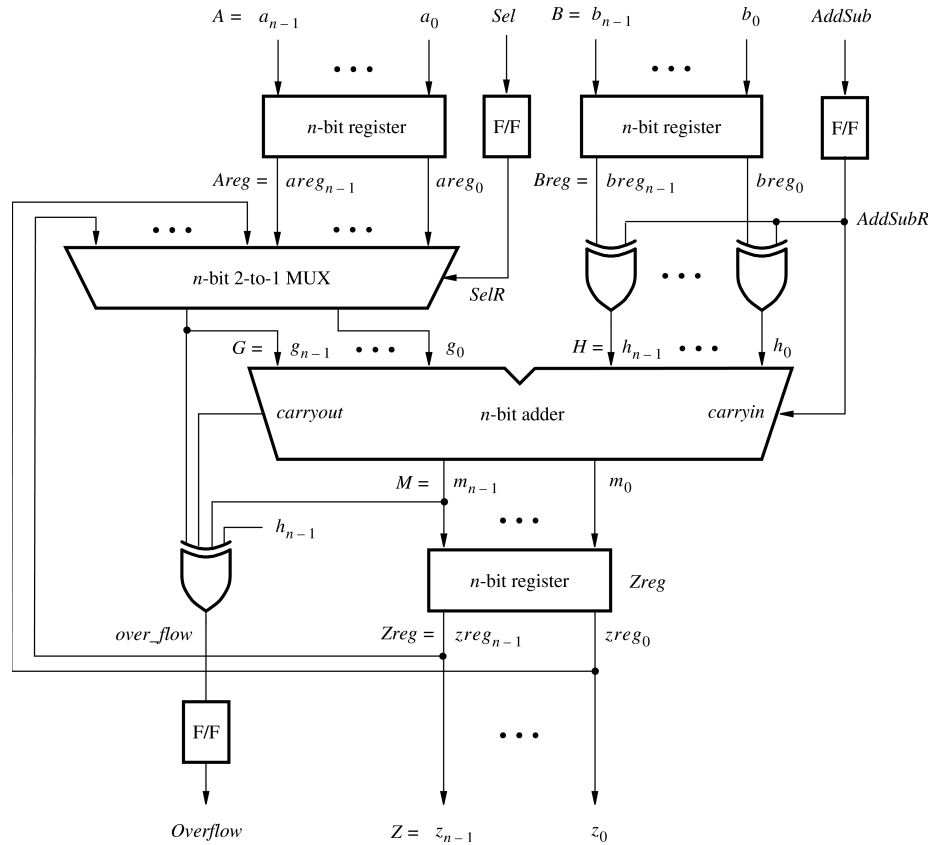
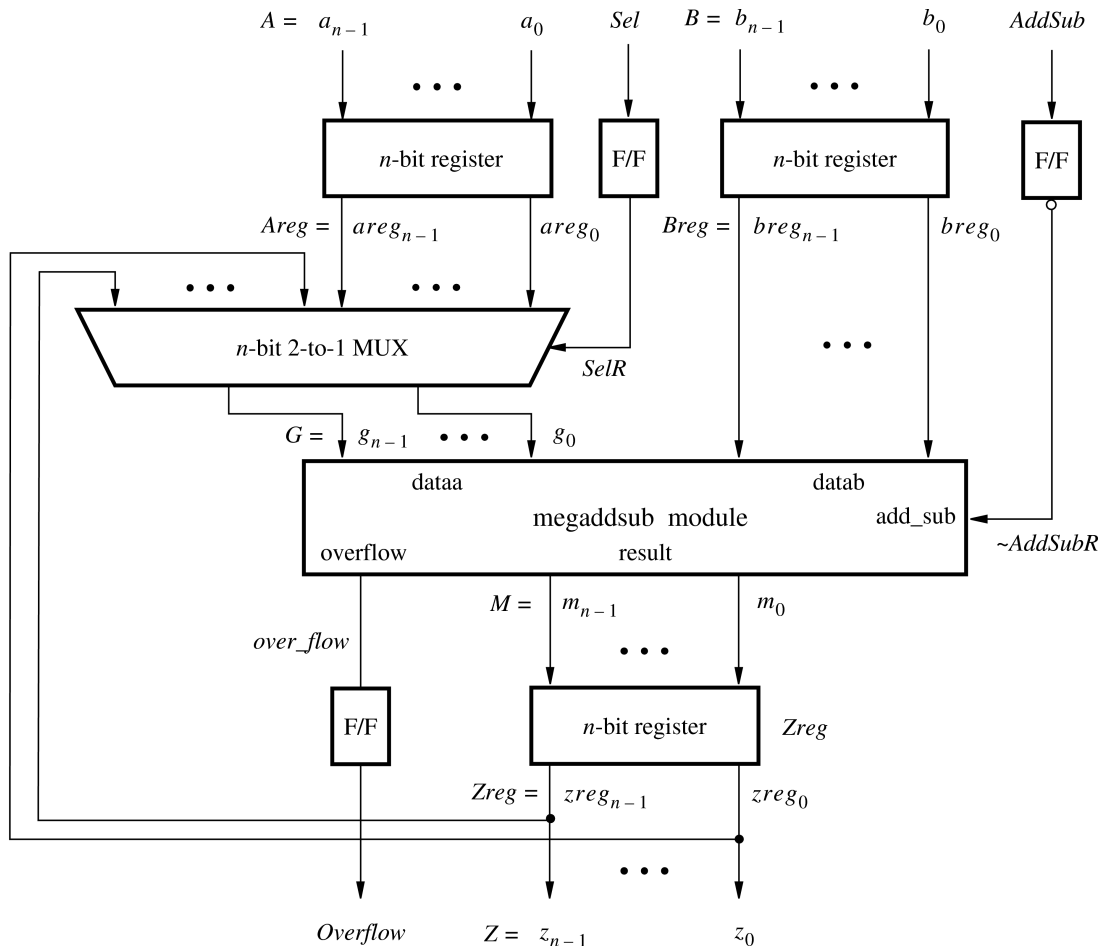
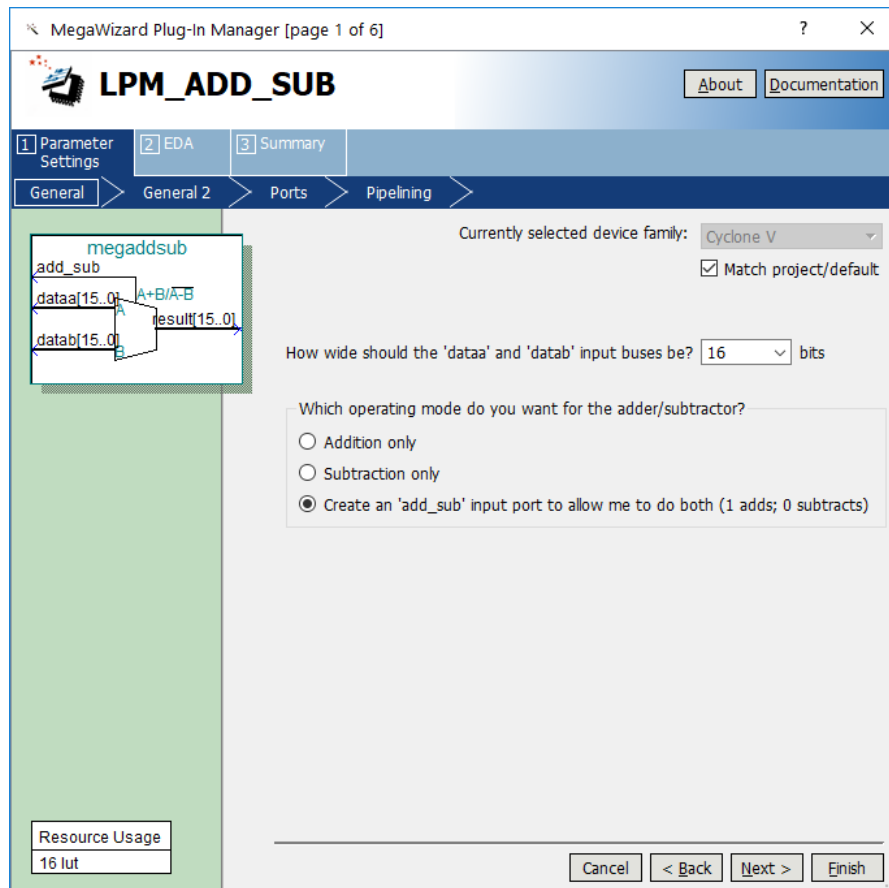

Figure 1. The adder/subtractor circuit.
Figure 3. The augmented adder/subtractor circuit.
Figure 6. Specify the size of data inputs.
As an example, we will use the adder/subtractor circuit shown in Figure 1. It can add, subtract, and accumulate  $n$ -bit numbers using the 2's complement number representation. The two primary inputs are numbers  $A = a_{n-1}a_{n-2}\cdots a_0$  and  $B = b_{n-1}b_{n-2}\cdots b_0$ , and the primary output is  $Z = z_{n-1}z_{n-2}\cdots z_0$ . Another input is the *AddSub* control signal which causes  $Z = A + B$  to be performed when *AddSub* = 0 and  $Z = A - B$  when *AddSub* = 1. A second control input, *Sel*, is used to select the accumulator mode of operation. If *Sel* = 0, the operation  $Z = A \pm B$  is performed, but if *Sel* = 1, then  $B$  is added to or subtracted from the current value of  $Z$ . If the addition or subtraction operations result in arithmetic overflow, an output signal, *Overflow*, is asserted.
The LPMs in the IP Catalog are general in structure and they can be configured to suit a specific application by specifying the values of various parameters. We will use the *lpm\_add\_sub* module to simplify our adder/subtractor circuit defined in Figures 1 and 2. The augmented circuit is given in Figure 3. The *lpm\_add\_sub* module, instantiated under the name *megaddsub*, replaces the adder circuit as well as the XOR gates that provide the input *H* to the adder. Since arithmetic overflow is one of the outputs that the LPM provides, it is not necessary to generate this output with a separate XOR gate.
4. In the box in Figure 6 specify that the width of the data inputs is 16 bits. Also, specify the operating mode in which one of the ports allows performing both addition and subtraction of the input operand, under the control of the *add\_sub* input. A symbol for the resulting LPM is shown in the top left corner. Note that if *add\_sub* = 1 then *result* = *A + B*; otherwise, *result* = *A – B*. This interpretation of the control input and the operation performed is different from our original design in Figures 1 and 2, which we have to account for in the modified design. Observe that we have included this change in the circuit in Figure 3. Click Next.
- The *adderk* instance of the adder circuit is replaced by *megaddsub*. Note that the *dataa* and *datab* inputs shown in Figure 6 are driven by the *G* and *Breg* vectors, respectively. Also, the inverted version of the *AddSubR* signal is specified to conform with the usage of this control signal in the LPM.